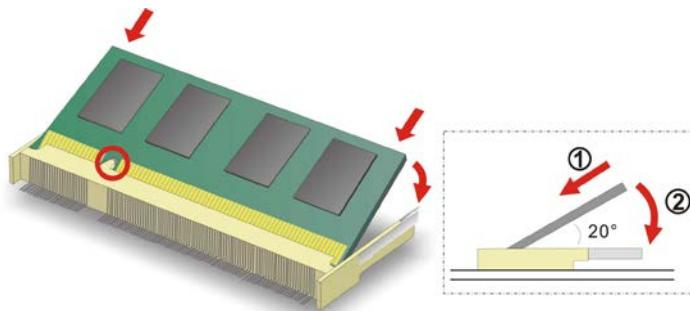

Figure 3-5: DDR4 SO-DIMM Module Installation
Step 5: Install the new DDR4 memory module by pushing it into the socket at an angle (**Figure 3-5**).
Step 6: Gently pull the spring retainer clips of the SO-DIMM socket out and push the rear of the DDR4 memory module down (**Figure 3-5**).